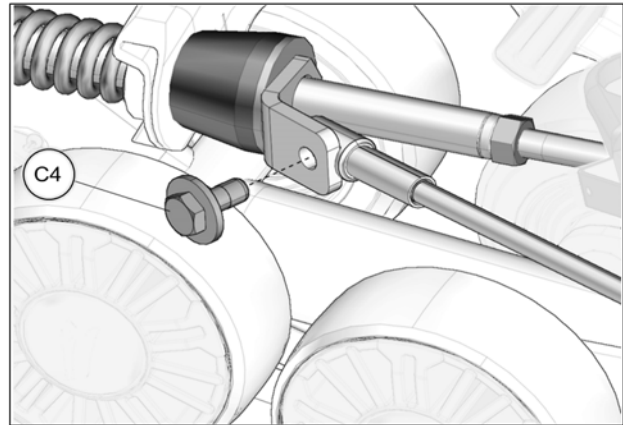

Fig. 30
22. Reverse steering wheel a little to be able to bolt support plate and cable together. Tighten provided bolt (C4) to 35 N•m [24 lb•ft]. See Fig. 30. Repeat steps on right side.